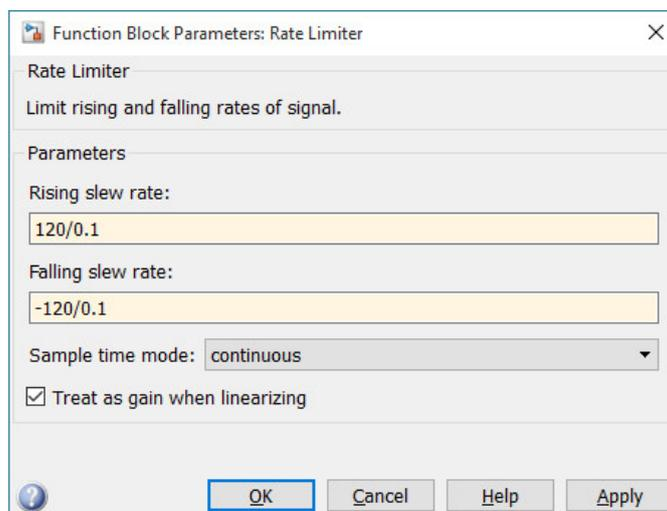

Figure 8: Rate limiter. Select the continuous sample time mode.
3. Limit the rising rate of the voltage to 120 V/0.1 s using the **Rate Limiter** block, cf. Fig. 8. Place this block between the voltage step and the motor model. Simulate the model and show the results in your report. Briefly comment on the current and speed responses.